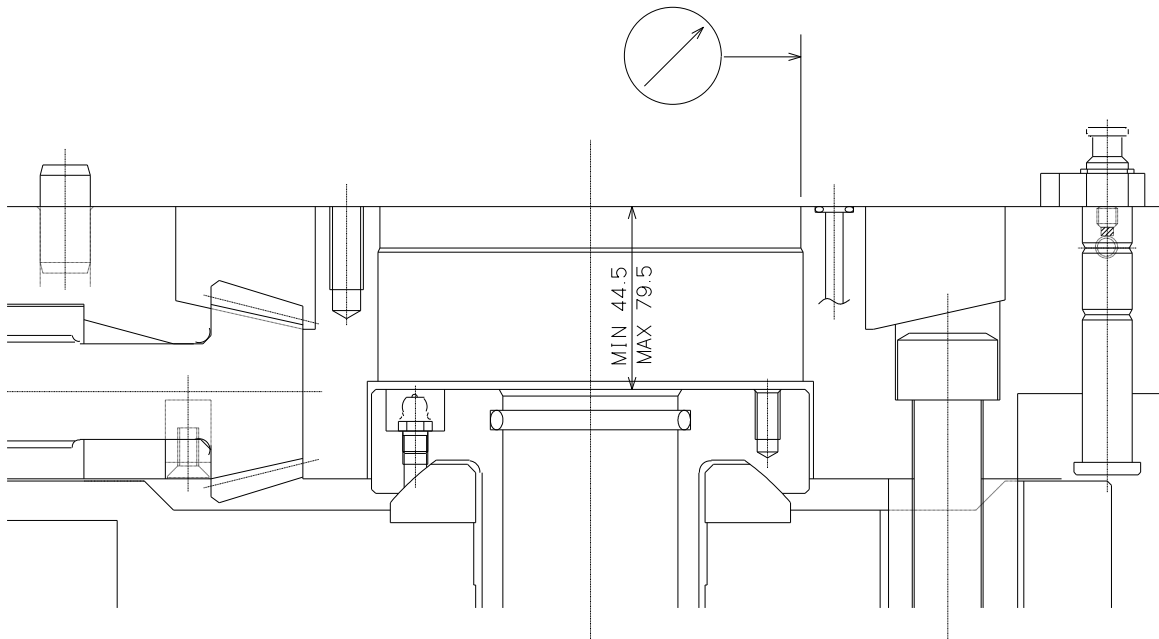

Fig.10
5. Temporarily fix the chuck with the socket head cap screw [01]. Adjust the chuck so that the diameter runout is 0.02mm T.I.R or less as shown in Fig.10, then tighten the socket head cap screw [01] and [02] to the specified torque.
6. Adjust the position of the plunger [D] using the connection handle [Z] as shown in Fig.10. Note that the plunger is equipped with a ball plunger (to stop plunger from rotating), so be sure to complete the adjustment at the position where you feel this response. Then verify that the specified amount of stroke has been achieved by fully stroking the chuck.